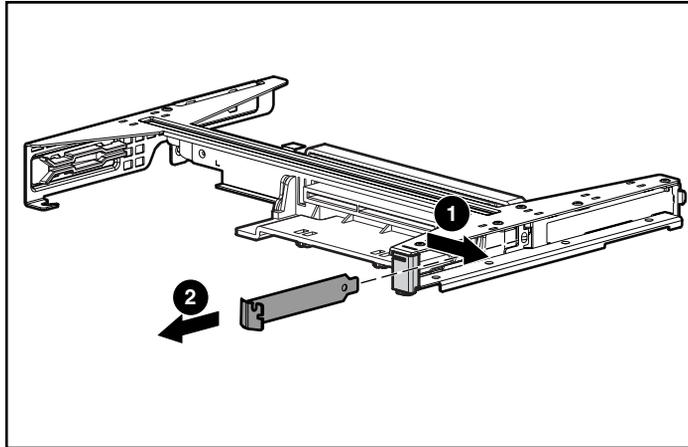

Figure 3-20. Removing the cover from expansion slot 1
5. To remove the cover in expansion slot 1 (Figure 3-20)
- a. Slide the expansion board retaining clip away from the assembly ❶.
- c. Remove the expansion slot cover ❷.